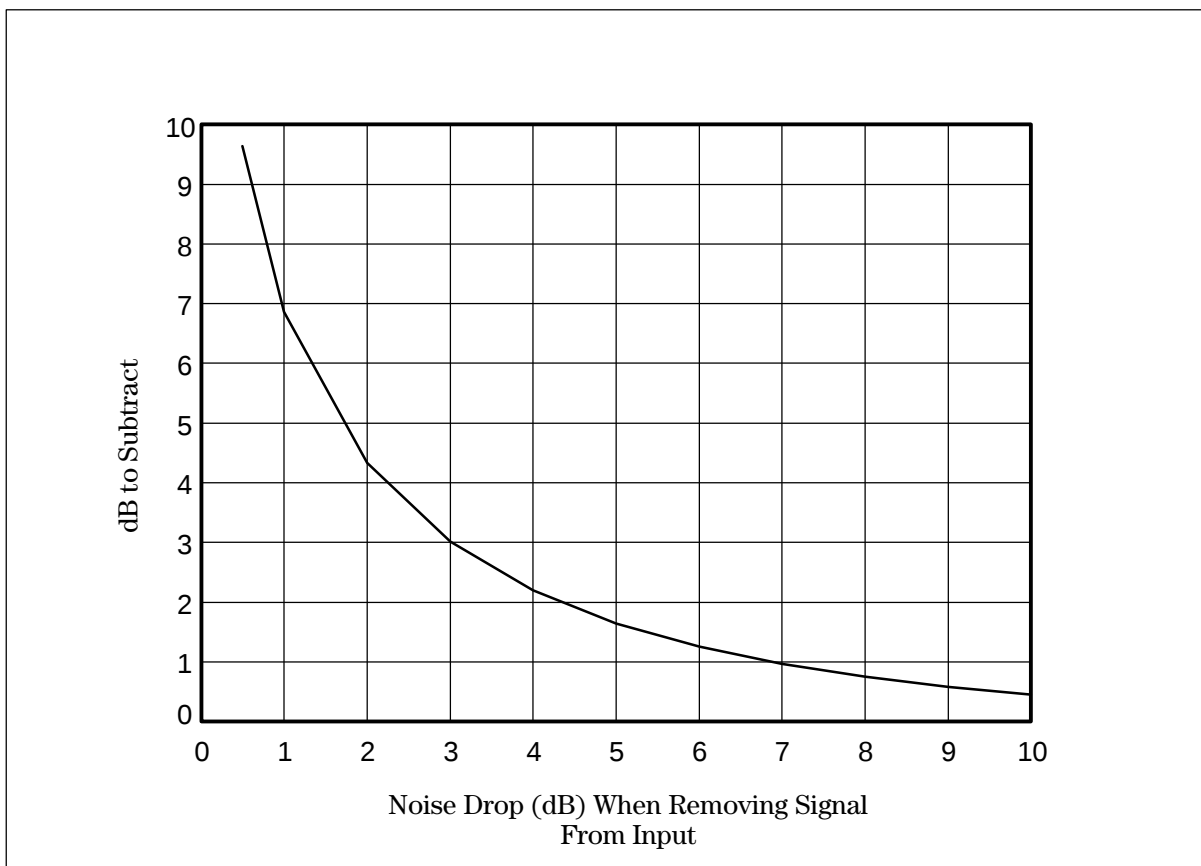

Figure 4.6. Correction to readings of noise level when input noise is within 10 dB of analyzer noise.
Analyzer or analyzer plus preamplifier noise figure: If the noise of the system is not 10 dB greater than the analyzer noise, or the analyzer plus the preamplifier's noise, then the value will be a composite of input and analyzer noise. The reading will be too high. Figure 4.6 shows the correction. For example if the noise drops 3 dB when disconnecting the input, subtract 3 dB from the measured noise value. ADD 3 dB to the uncorrected C/N measurement.
9. Determine the effect of analyzer noise on the measurement of the input noise. Press MKR **MARKER Δ** and disconnect the input from the analyzer, or, if a preamp is use, from the input to the preamp. Read the noise change. Get the noise near noise correction from the curve in Figure 4.6.